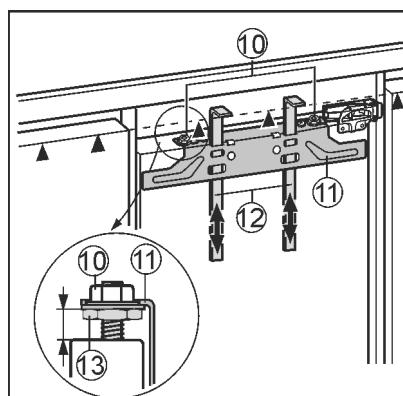

Fig. 17
- ▶ Raise the fitting aids Fig. 17 (12) to unit door height. Bottom stop edge of ▲the fitting aid = top edge of the unit door to be fitted.
- ▶ Unscrew the crosspiece Fig. 17 (11) by undoing the locknuts Fig. 17 (10).